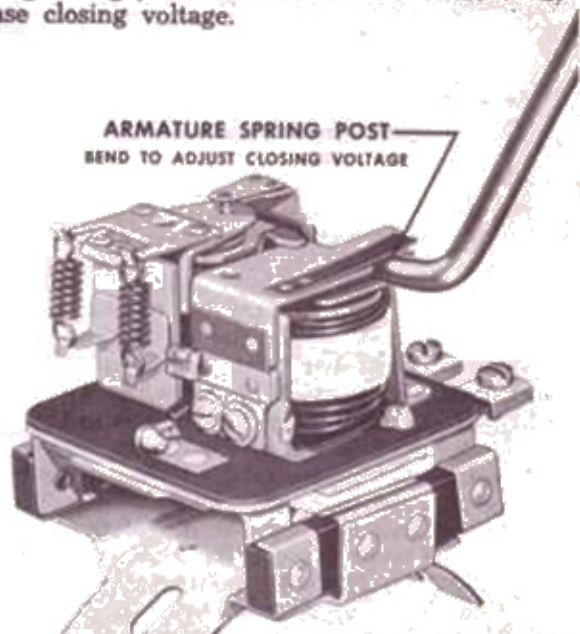

Figure 11—Adjustment of cutout relay closing voltage (1118200 series).
**CLOSING VOLTAGE (1118200 Series)**—Check closing voltage as described under Regulator Electrical Checks. Adjust closing voltage by bending the armature spring post (Fig. 11). Bend up to in-